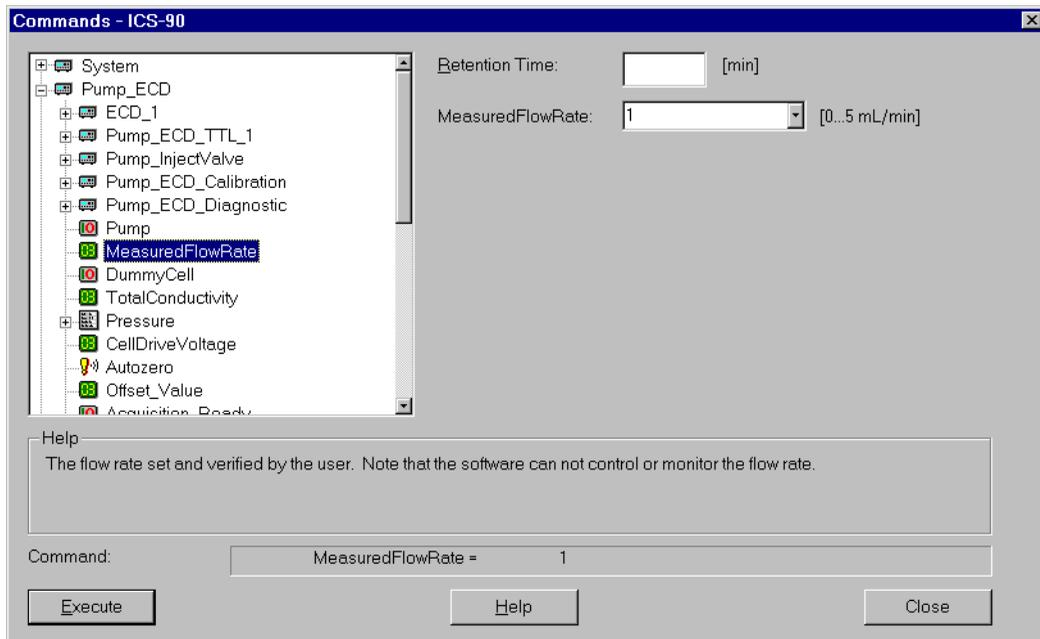

Figure B-23. ICS-90 Chromeleon Commands: MeasuredFlowRate
2. Expand the **Pump_ECD** group and select **MeasuredFlowRate** (see Figure B-23).